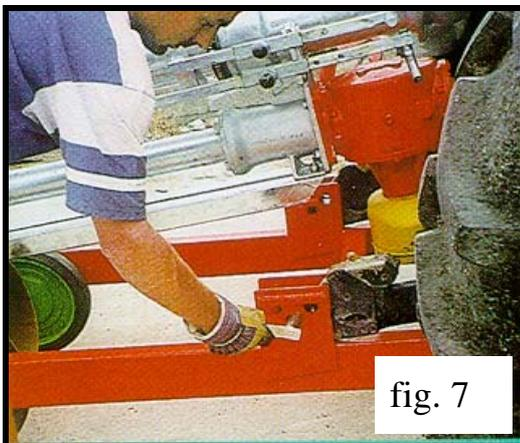
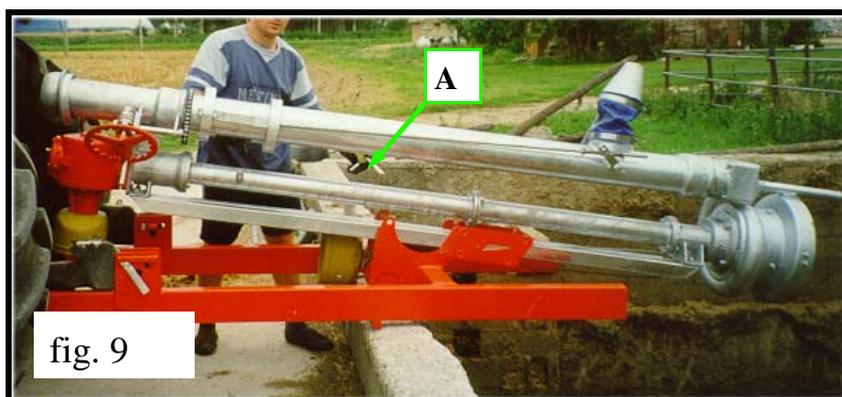

fig. 7
fig. 9
Fasten truck to the tractor lifting device by means of the special pins fig. 7. Back up until the tank edge is reached. Remove wheels fig. 8, lower the tractor lifting device by resting the truck on the tank wall fig. 9. Draw out the machine blocking pin A fig. 9.
- Conclude pump retrieval by starting tractor's power take-off again. Fasten the pump by means of the special locking pin A fig. 9